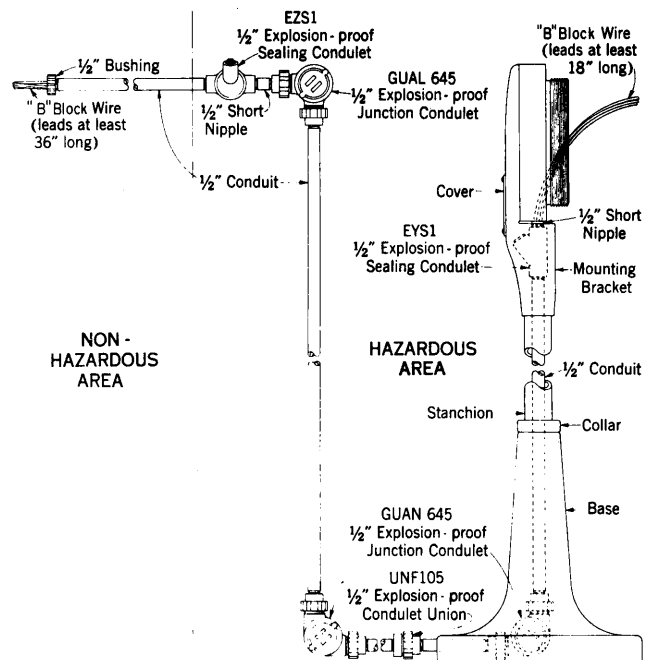

Fig. 5—Floor Installation Using 5A Pedestal
2.10 The 520-type telephone set is designed for wall or pedestal mounting. The 166A backboard is used for wall installation. The 5A pedestal is used for floor installations (Fig. 5).